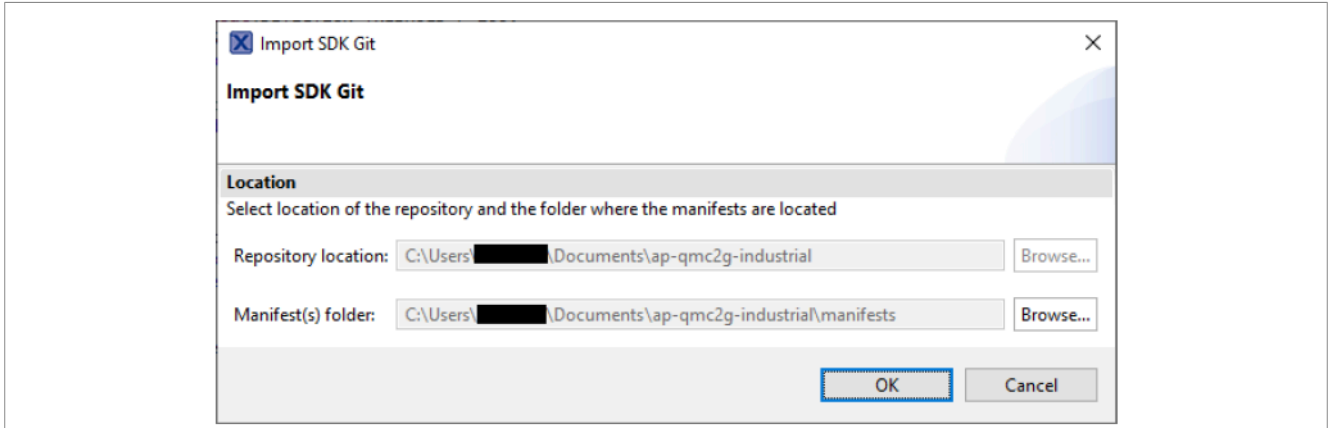
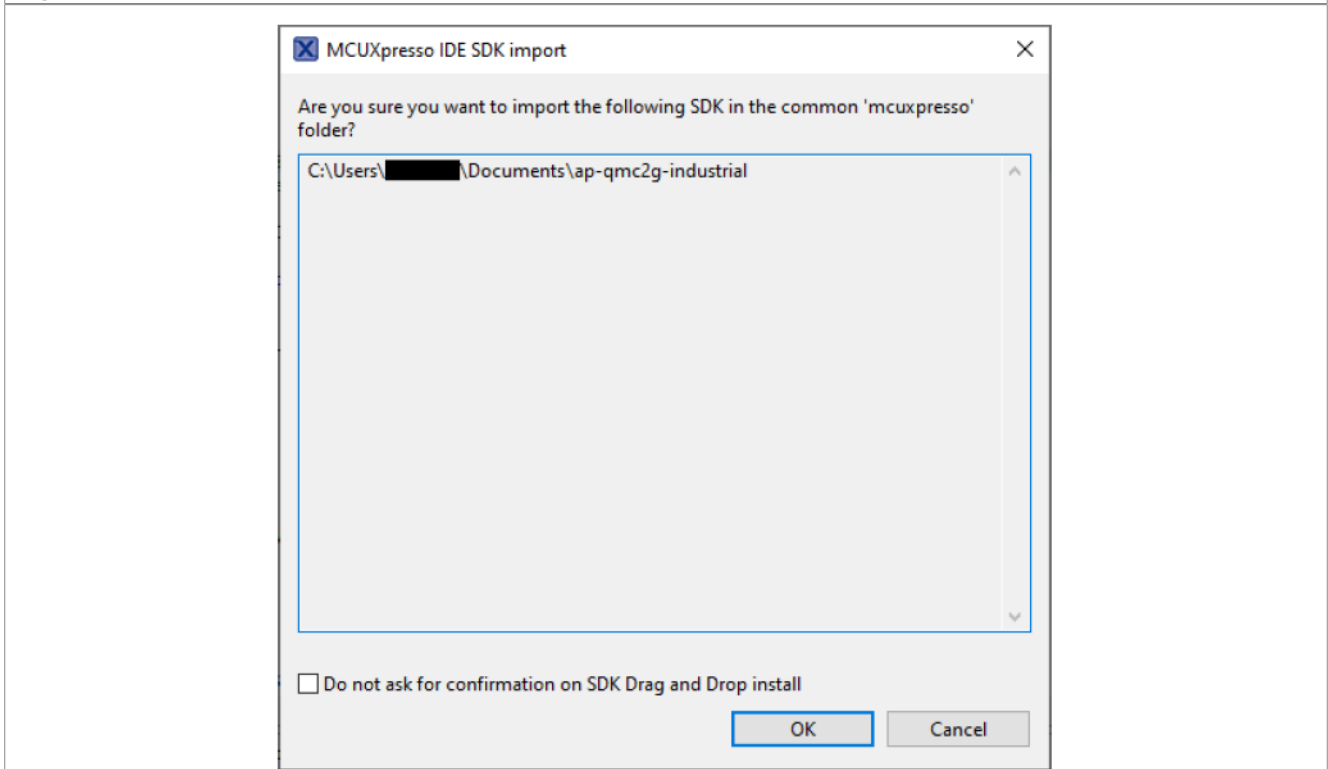

Figure 37. Import SDK Git via command line
Figure 38. Import SDK to MCUXpresso IDE
3. Drag and drop the "ap-qmc2g-industrial directory" that was created in the previous step into the *Installed SDKs* window located in a tab at the bottom of the screen named *Installed SDKs*. Click *OK* for pop-ups shown in Figure 37 and Figure 38: